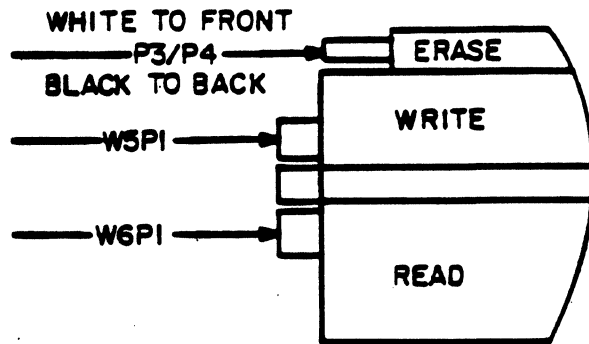

Figure 6-23. Magnetic Head Connectors
2. From front of transport, detach read head connector W6P1, write head connector W5P1, and erase head wires P3/P4 from magnetic head (see figure 6-23).
4. From front of tape deck, attach read, write, and erase connectors to magnetic head (see figure 6-23). Remove recording surface covering.